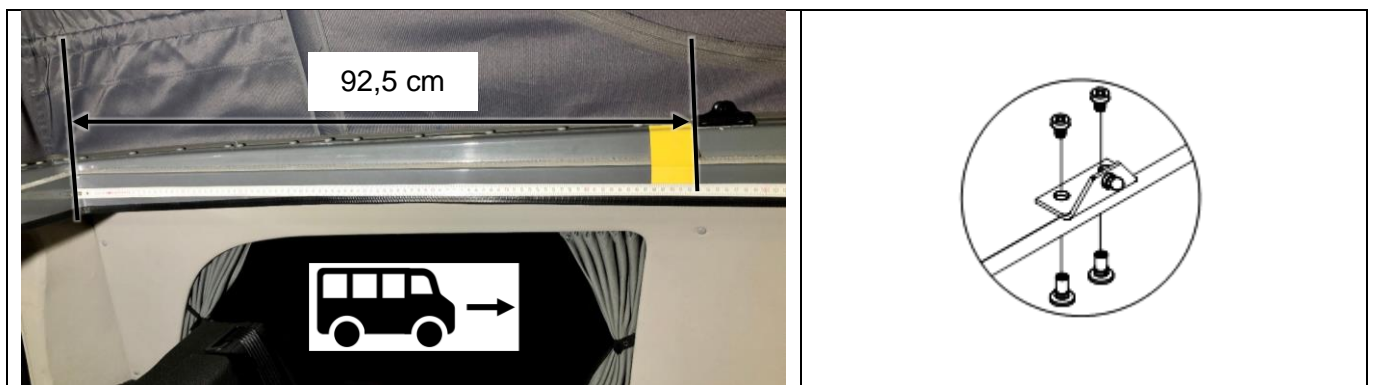

Fig. 8-1: Installation of the damper at the roof bed
- Screw the damper holders to the frame at a distance of 92,5 cm from the rear inner edge (see Fig. 8-1).